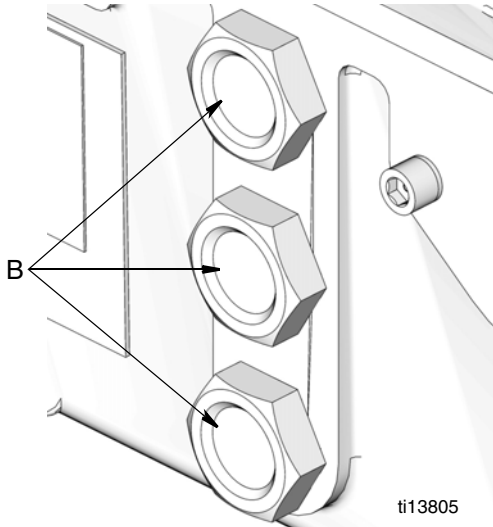

FIG. 3
- Three sight glasses (B) are provided in the reservoir at various levels to permit observation of fluid level (FIG. 3).